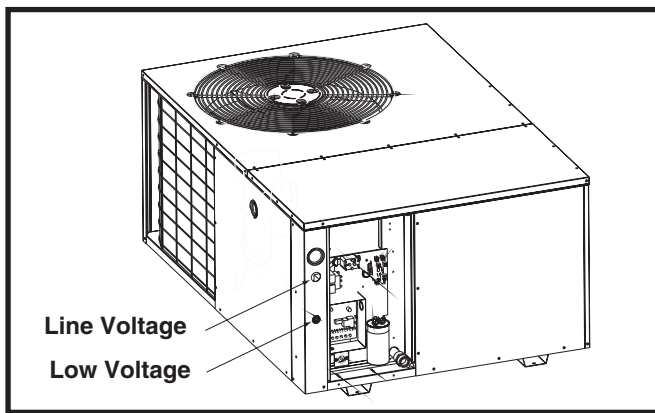

Figure 8. Power Entry
- Provide power supply for the unit in accordance with the unit wiring diagram, and the unit rating plate. Connect the line-voltage leads to the terminals on the contactor inside the control compartment. Extend leads through power wiring hole (Figure 8). Connect L1 & L2 directly to the contactor.
- The low voltage wires must be properly connected. Route 24V control wires through the sealing grommet near the power entrance. See Figure 8. Recommended wire gauge and wire lengths for typical thermostat connections are listed in Table 1.